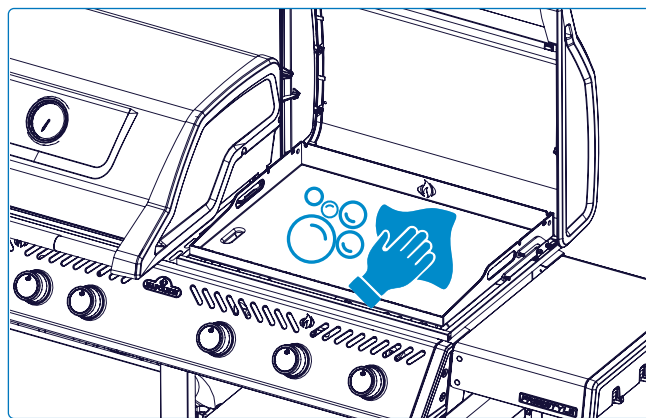

Fig. 10
1. Wash the griddle plate with warm water and mild dish soap to remove manufacturing residue. **This is the only time soap should be used on the griddle plate (Fig. 10).**